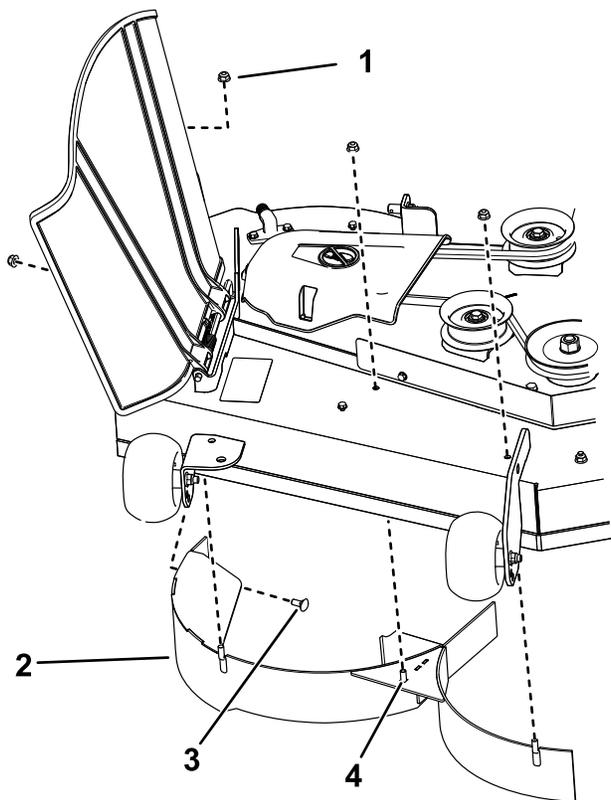

Figure 13
4. Remove the 3 locknuts (5/16 inch) from the welded posts of the right baffle (Figure 13).
1. Locknut—5/16 inch (4)
4. Welded post (3)
5. Remove the 2 carriage bolts and 2 locknuts securing the right baffle to the deck and remove the baffle (Figure 13).
6. Locate the 3 bolts in loose parts and use the existing locknuts and install these fasteners into the holes used for the welded posts (Figure 13) to prevent flying debris.